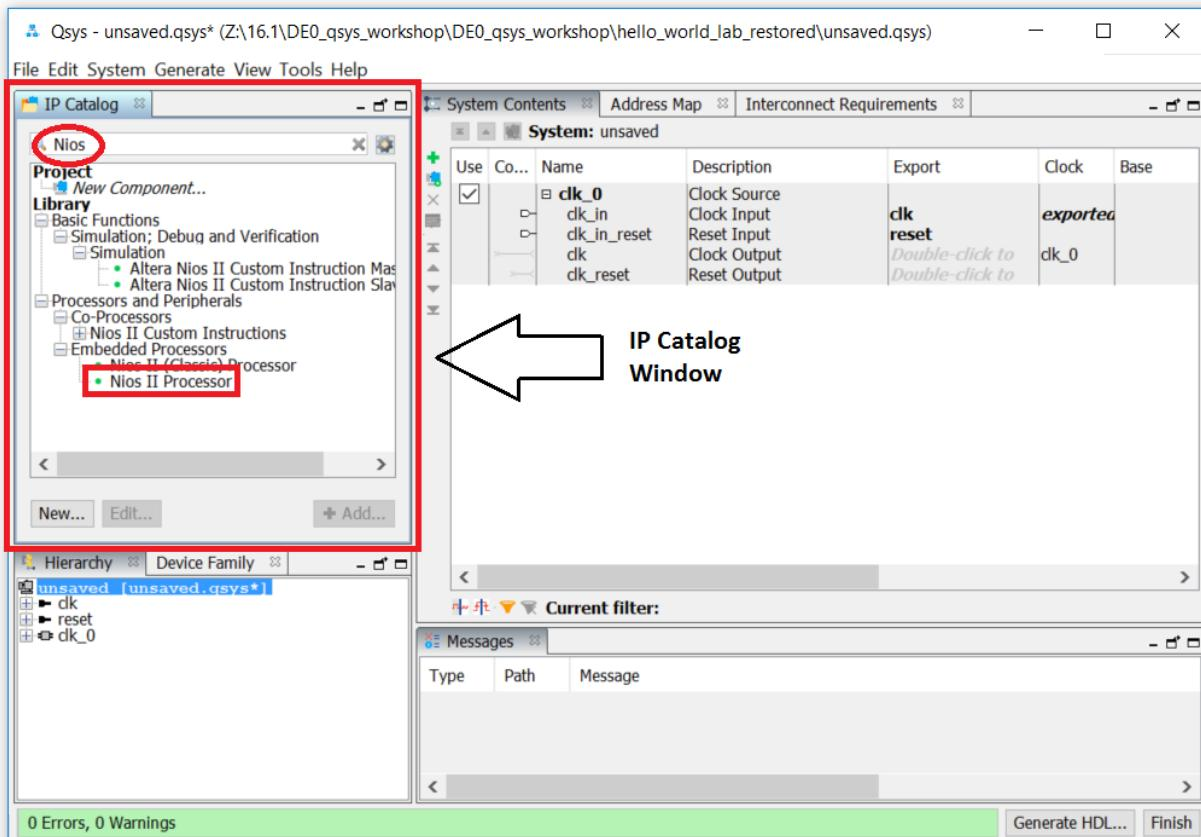

Figure 6: IP Catalog Tab
2. Enter “Nios” in the search tab and select the **Nios II Processor (not the Classic Nios II)** from the library by double clicking. See Figure 6 on the following page for example.